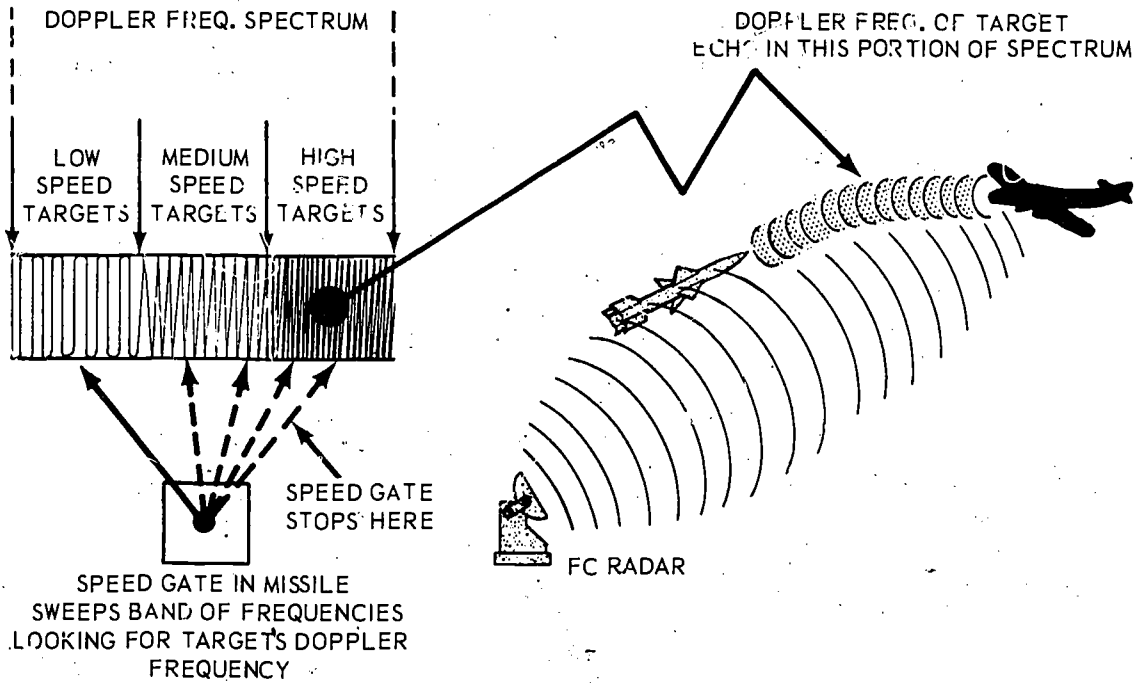

Figure 9-17.—Sweep selection signal, used for homing missiles.
**Sweep Selector Signal.**—The HT missile looks for the target in much the same way that you would look for a program on the radio if you did not know on what station it was. You would probably start sweeping the turning knob from one end of the dial to the other while you listened for some identifying sound from the program. The HT missile seeker (fig. 9-15B) uses similar search technique. The seeker circuits (called a speed gate) sweep a narrow band of doppler frequencies (fig. 9-17) that represent a narrow range of target speeds. To shorten the search time, the missile fire control computer determines where in the speed range the seeker should look. This sweep selection information is sent from the fire control computer to the missile before it is launched. Essentially, the sweep selector signal tells the missile receiver circuits to look for the target doppler signal on the low end of the dial or the high end, depending on target speed. The doppler frequency of a particular target, once acquired, should change very little unless the target executes violent evasive maneuvers which would change the missile-target range rate.